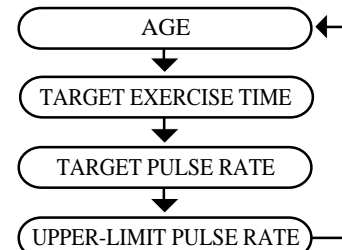

Fig. 2
a) In the "Initial Display", each press of this button advances the mode and the figure to be modified blinks in the order as Fig. 2.